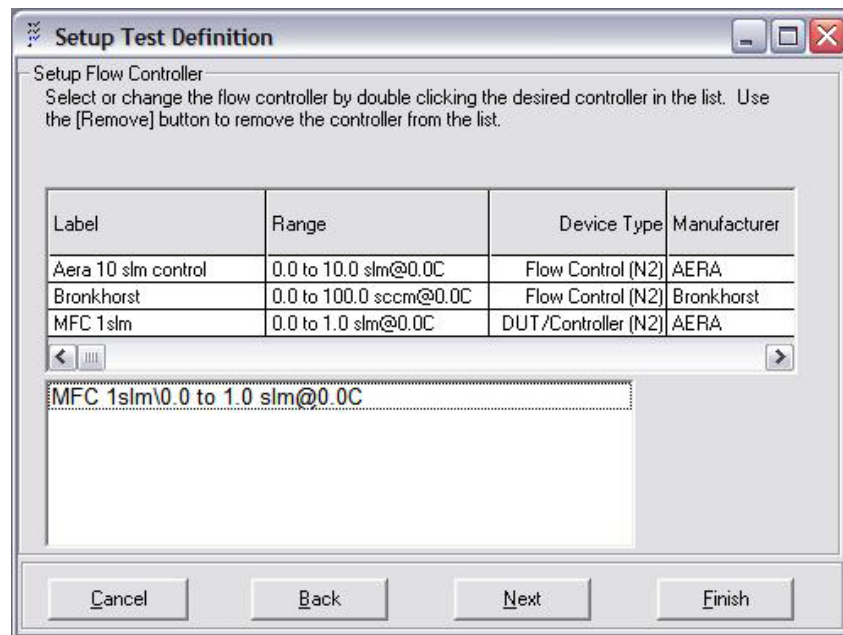

Figure 104. Run Test - Setup Flow Controller window
- ⑥ Verify or select the mass flow controller on the “**Setup Flow Controller**” window (see Figure 104). This selection is predefined in the test but can be changed at this step to another flow controller, i.e. manual control. Select “**Next**”.
- 4 Verify or select the mass flow controller on the “Setup Flow Controller” window (see Figure 104). Select “Next”.